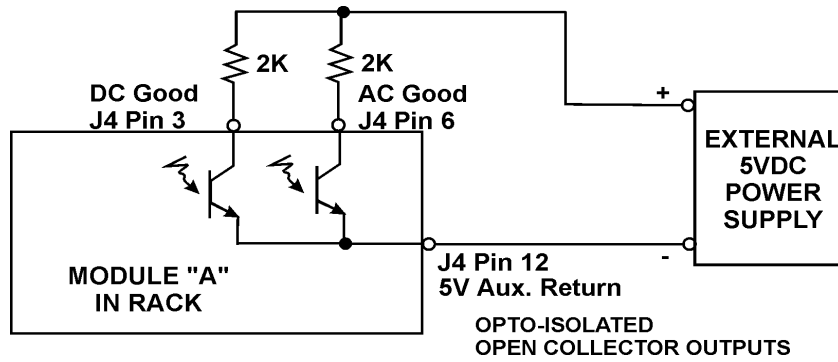

Figure 10. Checking AC Good and DC Good Outputs
- 20.9 Checking the AC Good and DC Good Outputs.** Connect the -lead of an external 5V power supply to 5V Aux. Return (J4 Pin 12). Connect one end of a 2K resistor to the +lead of the 5V supply and the other end to the AC Good output (J4 Pin 6). Connect one end of another 2K resistor to the +lead of the 5V supply and the other end to the DC Good output (J4 Pin 3). See Figure 10. Reconnect the Remote Enable wire. Measure the output voltage at both J4 Pins 3 and 6 with respect to the 5V Aux. Return (J4 Pin 12) with a digital voltmeter. Both voltages should be less than 0.5VDC, indicating a TTL LO.